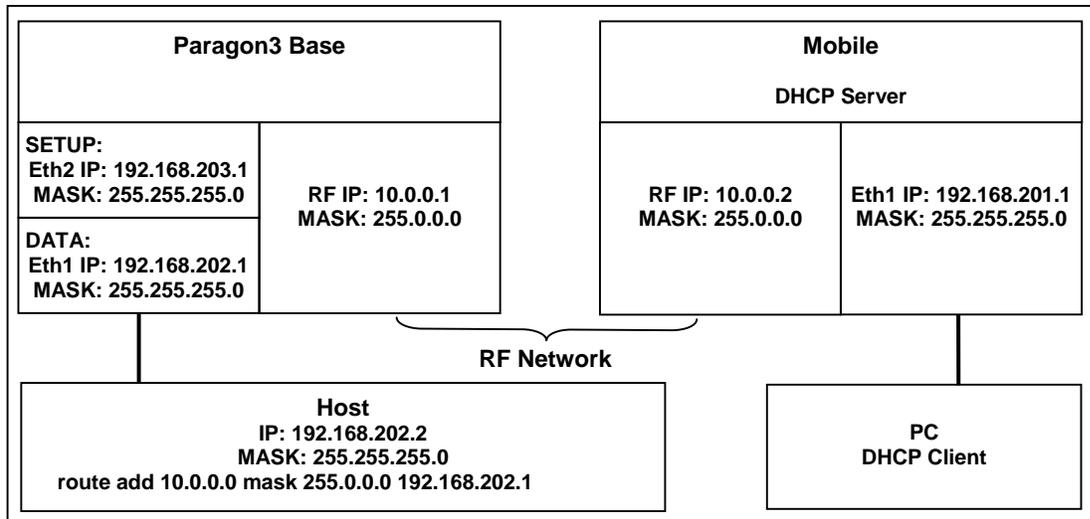

Figure 12 - IP Network Settings in Router Mode (with Host)
Figure 12 below illustrates Paragon4 base station settings. In Setup (Advanced) → LAN (IP), set the data Interface 1 port (Eth1) IP addresses (set the setup Interface 2 port (Eth2)) and IP netmask of both Base and Mobile(s).